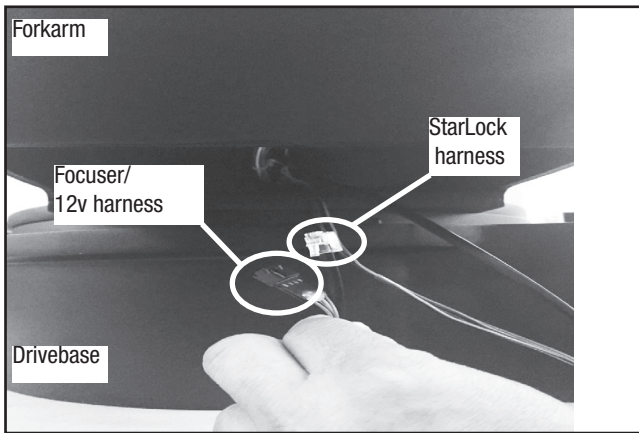

Fig. 41: Pull wire harnesses through the bottom access door. Then route the harness vertically through the fork arm.
6. With the three access plates removed, route both wire harnesses inside the fork arm from the top of the drivebase, through the left horizontal part of the fork arm and grab it using the bottom access door. See Fig. 41.